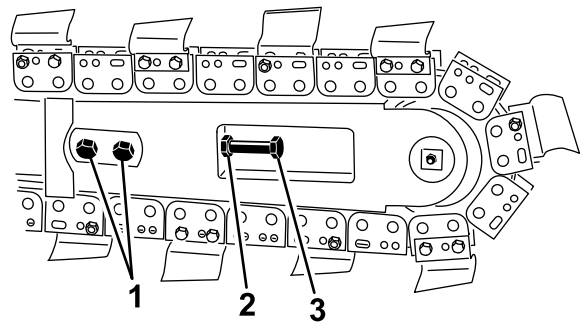

Figure 62
- A. Remove the 2 bolts and nuts securing the boom to the trencher arm (Figure 62).